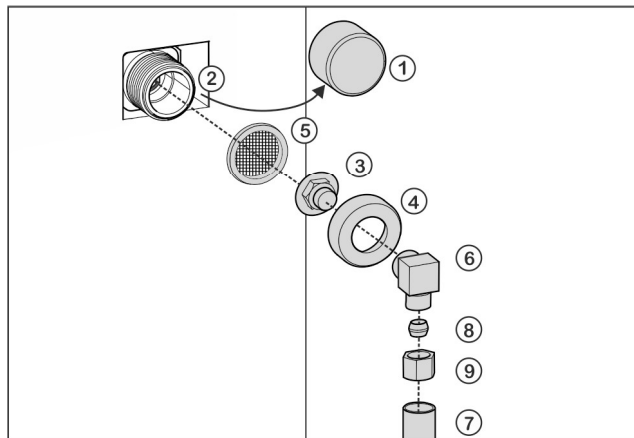

Fig. 51
- ▶ Remove cap Fig. 51 (1) from solenoid valve Fig. 51 (2).
- ▶ Insert coupler Fig. 51 (3) into union nut Fig. 51 (4).
- ▶ Insert the filter *Fig. 51 (5)* with the recess pointing down towards the coupler *Fig. 51 (3)*.
- ▶ Screw the union nut *Fig. 51 (4)* by hand onto the thread of the solenoid valve *Fig. 51 (2)* until it is firmly in place.
- ▶ Screw on angle piece *Fig. 51 (6)*.
- ▶ Connect the water pipe *Fig. 51 (7)* (e. g. 1/4" OD copper pipe) with the clamp ring *Fig. 51 (8)* and nut *Fig. 51 (9)* to the elbow connector *Fig. 51 (6)*.
- ▶ If necessary: Fasten the water pipe *Fig. 51 (7)* to the housing with the guide clip.
- ▶ Put angle piece *Fig. 51 (6)* to one side.
- ▶ Connect the water pipe *Fig. 51 (7)* (e. g. 1/4" OD copper pipe) with the clamp ring *Fig. 51 (8)* and nut *Fig. 51 (9)* to the coupler *Fig. 51 (3)*.